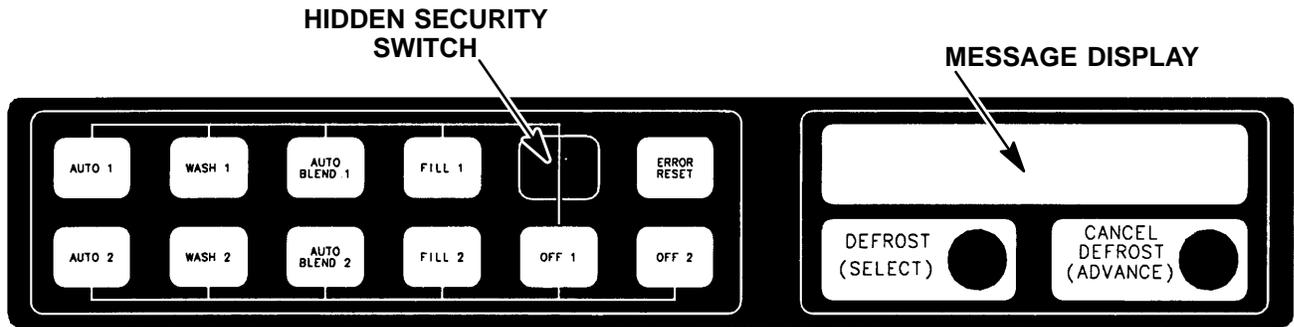

FIGURE 9. CONTROL PANEL
Note: The Unit control panel switches are as shown in Figure 9.
1. Press “AUTO 1”, “WASH 1”, and “BLEND 1” control switches (see Figure 9) at the same time and hold them pressed for a minimum of 1/2 second to bring up MAIN MENU SELECTIONS on message display. The word “CLOCK” will appear on display. You are now in the MAIN MENU SELECTIONS as shown in 3 To advance through the MENU SELECTIONS, repeatedly press the “CANCEL DEFROST” (ADVANCE) switch. Once you reach the desired selection, press the “DEFROST” (SELECT) switch to lock in on the selection.